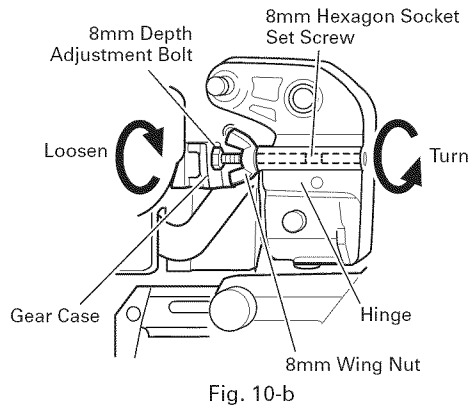

Fig. 10-b
NOTE: When cutting a workpiece exceeding 3-11/32" (85mm) in height in right-angle cutting or 2-3/16" (55mm) in left bevel angle cutting or 1-3/16" (30mm) in right bevel angle cutting, adjust the lower limit position so that the base of the motor head (see Fig. 10-a) will not come in contact with the workpiece.
To adjust the lower limit position of the saw blade, follow the procedures (1) to (3) shown in Fig. 10-a.
- (1) Loosen the 8mm wing nut so that the 8mm depth adjustment bolt can be turned by hand.
- (2) Lower the motor head, and thrun the 8mm depth adjustment bolt by hand and make adjustments so that there can be a clearance of 3/32" to 1/8" (2mm to 3mm) between the lower limit position of the motor head and the top of the workpiece at the saw blade's lower limit position (where the head of the 8mm depth adjustment bolt contacts the gear case).